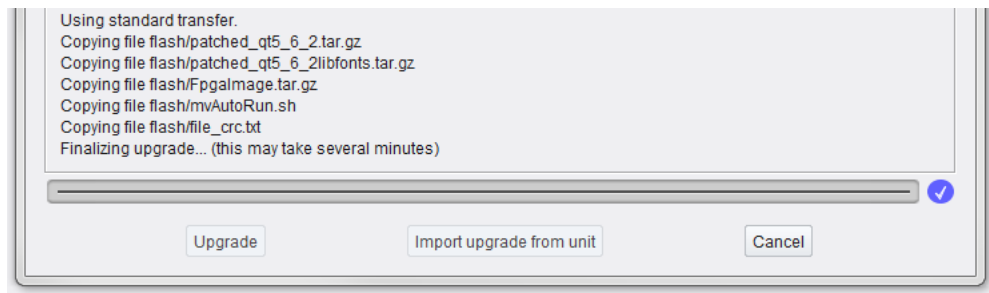

Fig. 8-13: Upgrade Log Messages - In Progress (“Finalizing upgrade” message: Wait)
- 10 While the software upgrade is finalizing (see Figure 8-13), if the MV-8 Series Multiviewer's programmable logic (FPGA) requires upgrading as part of this upgrade package, then this FPGA upgrade is done. It approximately takes a *further* 16 minutes to complete an FPGA upgrade.